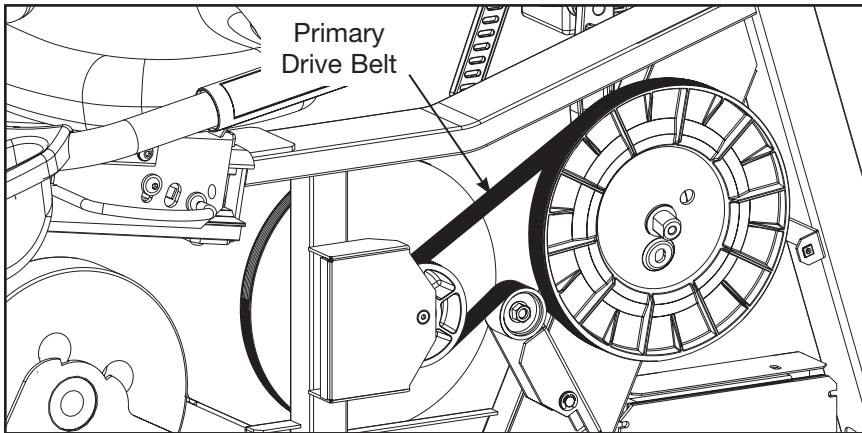

Figure 11
F. Locate Primary and Secondary Drive Belts. See Figures 11 and 12.